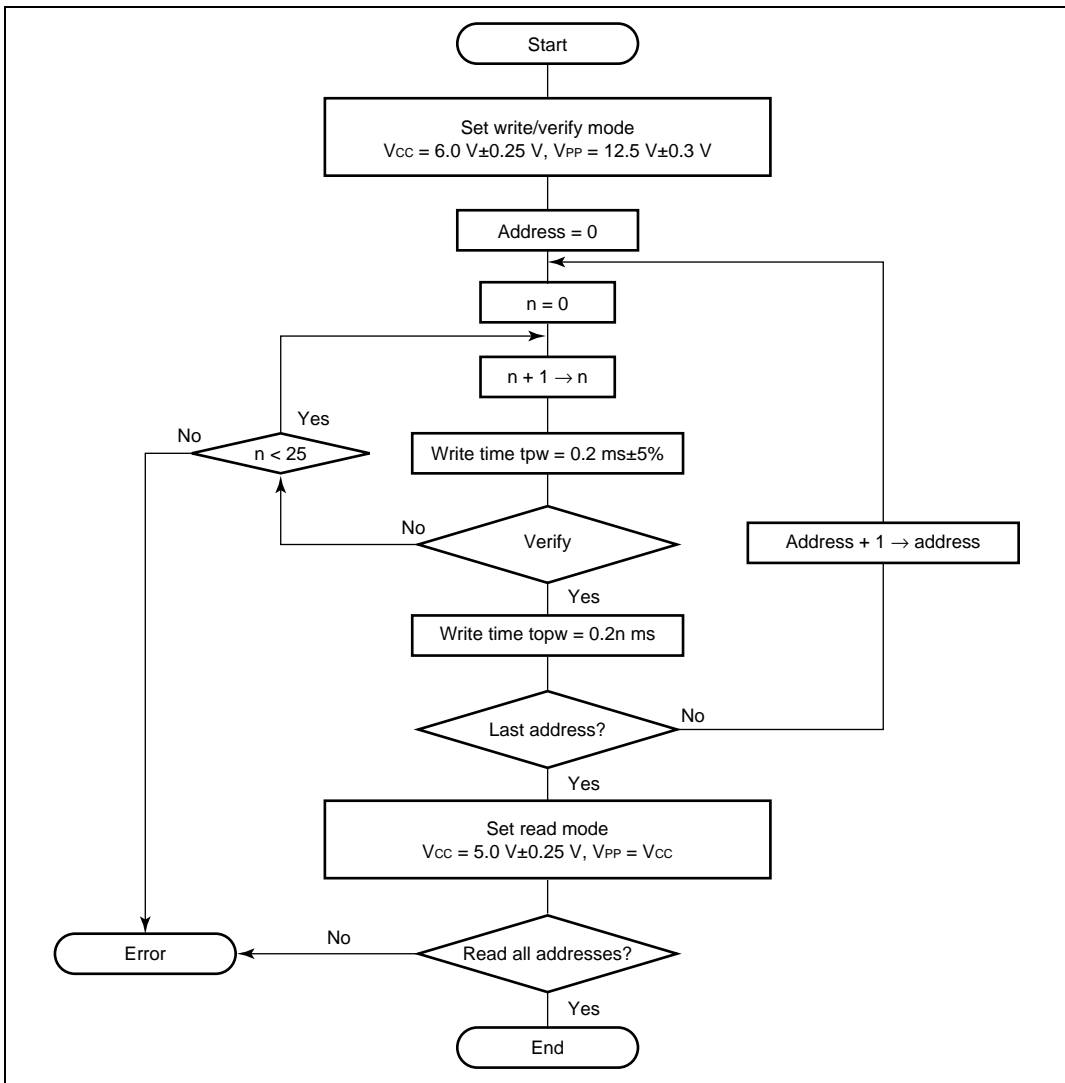

Figure 6.4 High-Speed, High-Reliability Programming Flowchart
The basic flow of this high-speed, high-reliability programming method is shown in figure 6.4.
3. t_{OPW} is defined by the value given in figure 6.4, High-Speed, High-Reliability Programming Flow Chart.